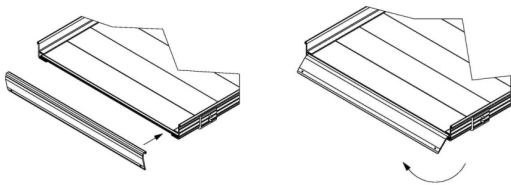

FIG. 3.16
- 3.6.4. Place the upper end of the ramp onto supporting surface (i.e., platform, porch, etc.). Once the ramp is resting on the porch or platform, lift the upper end of the ramp and install the HARRUT (RAMP UPPER TRANSITION) into what will be the upper end of the ramp (FIG. 3.16) and the HARRGT (RAMP GROUND TRANSITION) into what will be the lower end of the ramp.